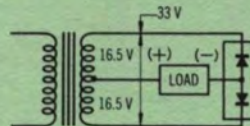

Fig. 5 — BCR Circuit
① Forced convection cooled.
② Line-to-line voltage (see Figures 5 & 6).